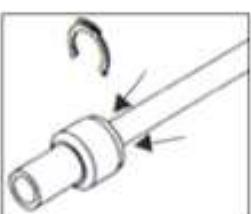

Fig. 2
2. Press symmetrically the flange of the quick-release fitting (Fig.2).